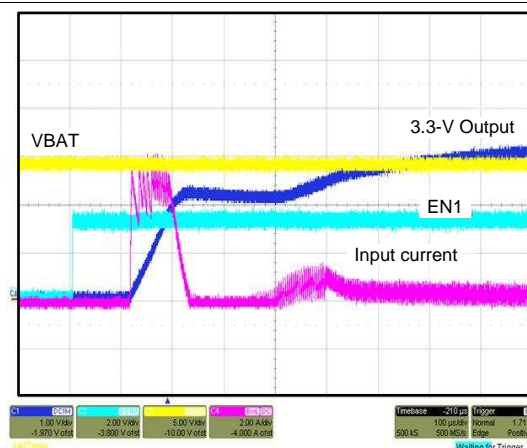

Figure 17. Partially Discharged SS Capacitor Causes Nonmonotonic Ramp and High Input Currents
- A nonmonotonous ramp (see Figure 17)
- High inrush-current (up to 6 A, see Figure 17)